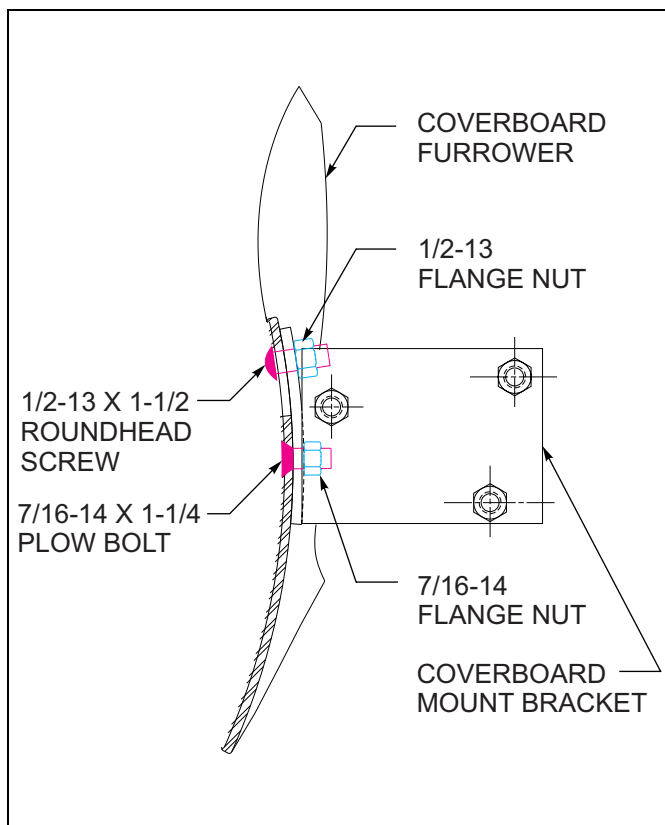

Figure 3-8: Coverboard Installation
2. Tighten the 7/16-14 flange nut to the 7/16-14 x 1-1/4 plow bolt before tightening the 1/2-13 hex nut to the 1/2-13 x 1-1/2 roundhead screw. This is to ensure that the point of the coverboard furrower is pulled tightly against the bracket. Make sure that the plow bolt head is flush with the surface of the coverboard furrower (See Figure 3-8.) This hardware should be tightened now.